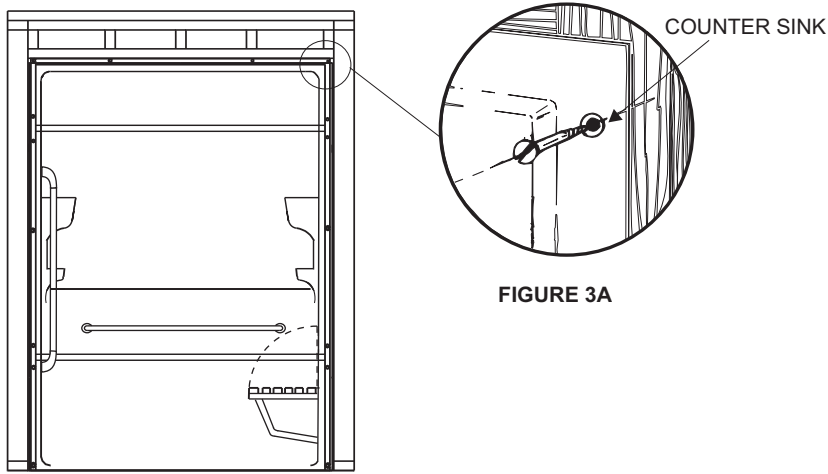

FIGURE 3 - FASTENING WITH DRYWALL SCREWS
- The shower is fastened in place using dry wall screws. Holes are to be drilled in the flange on both sides and across the top. The holes are to be drilled by the installer, installation illustrated in figures 3 and 3A.